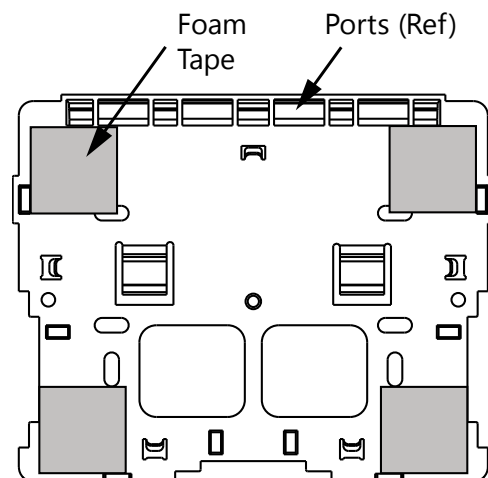

Figure 2
1. Remove the protective adhesive paper from one side of the foam tape and place the foam tape on the bottom of the module base. Recommended location is shown in Figure 2.